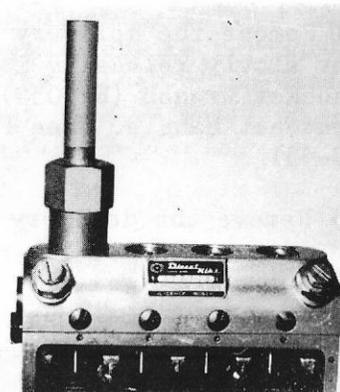

Fig. 9-43
3) Remove the delivery valve by slowly releasing it with socket wrench (EF9059) and ratchet handle. (See Fig. 9-43)